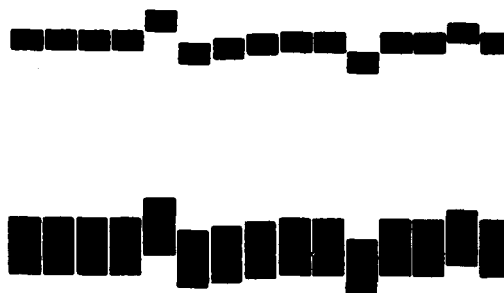

Figure 102. Enlarged examples of jitters.
b. Jag or Jitters. These are the terms used to describe irregular or saw-tooth recording of lines that should be straight (fig. 102). The trouble is generally in the motor or the clutch. It can, however, originate in the drum or the lead screw. To determine whether it is in the drum or the lead screw, first replace the motor with one from another machine which is operating satisfactorily, and make a test run. Use a transmission test copy having straight lines running parallel to the axis of the drum. The recording of the straight